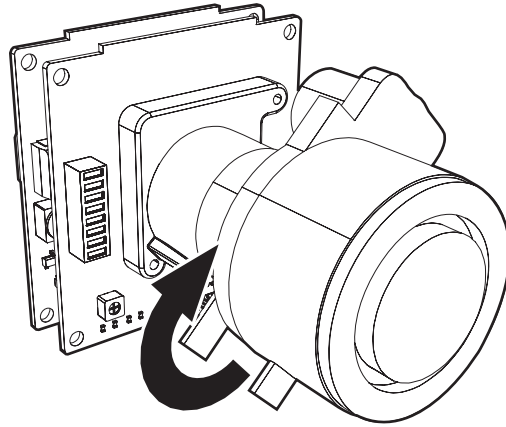

Figure 14. Adjusting the Camera
2. Attach the camera using three spacers and three screws (14 mm). Do NOT overtighten the screws or the spacers will collapse. The focus knobs need to be positioned as shown in Figure 14 on page 22.
5. The camera focus and zoom come from the factory with a medium setting. They can be adjusted with the built-in camera located inside the monitor. Refer to Figure 14 on page 22.